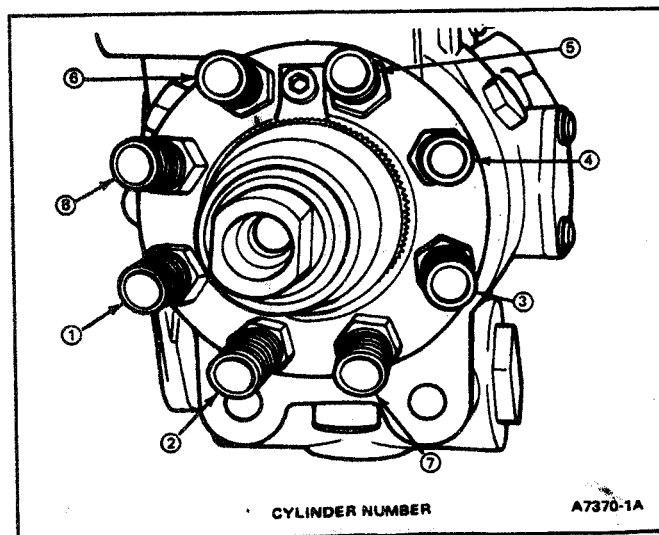

FIG. 52 Injection Pump Cylinder Numbering Sequence
NOTE: Fuel lines must be removed following this sequence; 5-6-4-8-3-1-7-2. Install caps on each end of each fuel line and pump fitting as it is removed and identify each fuel line accordingly (Fig. 52).
1. Install fuel lines on injection pump, using Tool T83T-9396-A, one at a time, and tighten to specification (Fig. 52).
NOTE: Fuel lines must be installed in the sequence: 2-7-1-3-8-4-6-5 (Fig. 52).